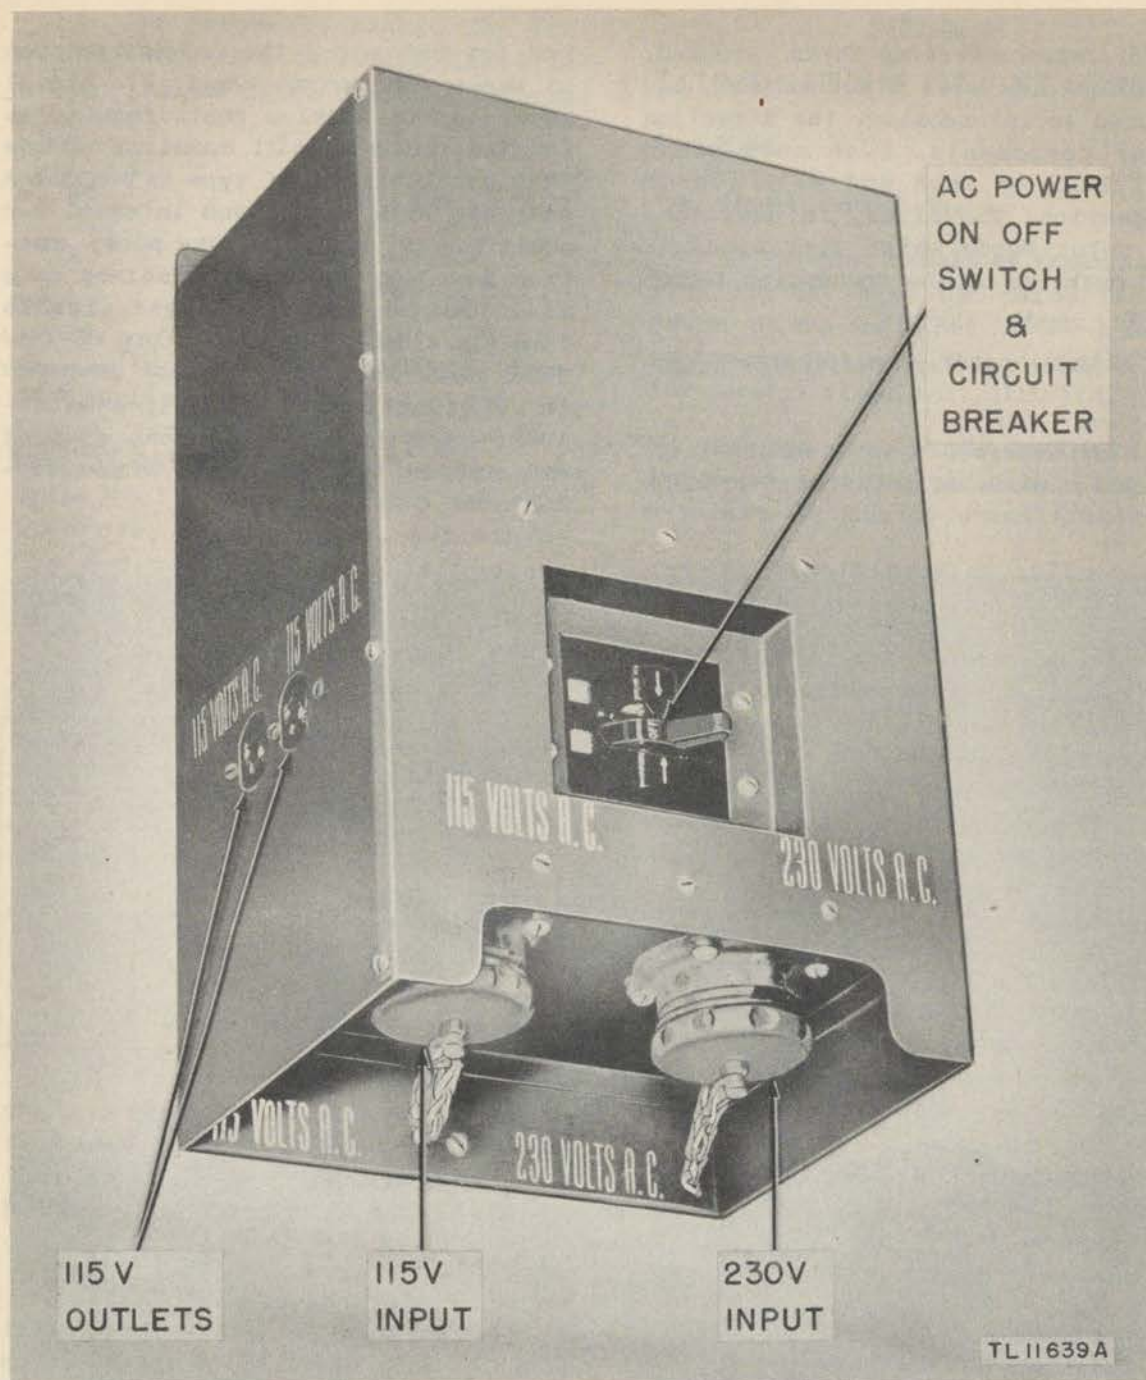

Figure 16. Junction Box JB-126.
(5) Junction Box JB-126-(). This junction box (fig. 16) is a sheet-steel unit approximately 17 inches by 10 inches by 8 inches. It has a handle on the top, and two waterproof receptacles on the bottom for connection to the a-c cord from the power source. A circuit breaker is mounted